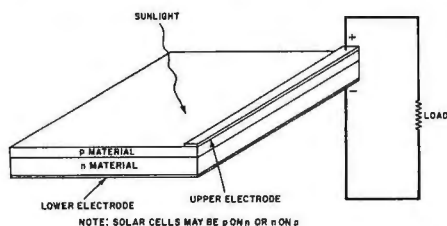

Fig. 1. Make-up of a cell.
**Solar Cell Theory.** The construction of a typical silicon solar cell is shown in Fig. 1. It is essentially a *pn*